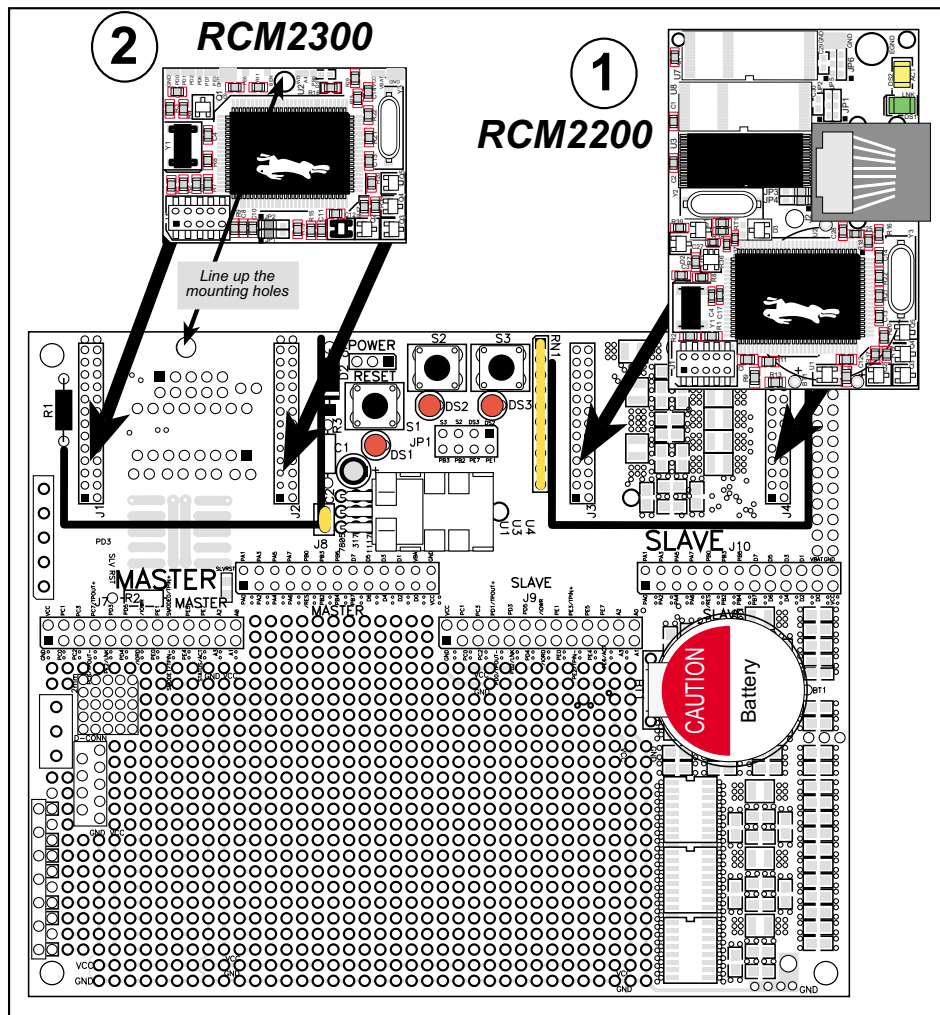

Figure 4. Install the Modules on the Demonstration Board
1. Turn the RCM2200 module so that the Ethernet connector end of the module extends off the Demonstration Board, as shown in Figure 4 below. Align the module headers J4 and J5 into sockets J3 and J4 (the **SLAVE** slots) on the Demonstration Board. Press the module's pins firmly into the Demonstration Board headers.
2. Turn the RCM2300 module so that the header pins and the mounting hole of the RCM2300 line up with the sockets and mounting hole on the Demonstration Board as shown in Figure 4. Align the module headers J4 and J5 into sockets J1 and J2 (the **MASTER** slots) on the Demonstration Board. Press the module's pins firmly into the Demonstration Board headers.